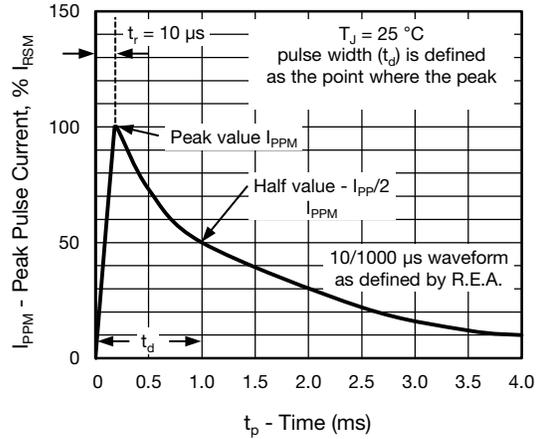

Fig. 3 - Pulse Waveform
- (1) Non-repetitive current pulse per fig.3 and derated above  $T_A = 25\text{ }^\circ\text{C}$
- (2) Surge current waveform per fig.3